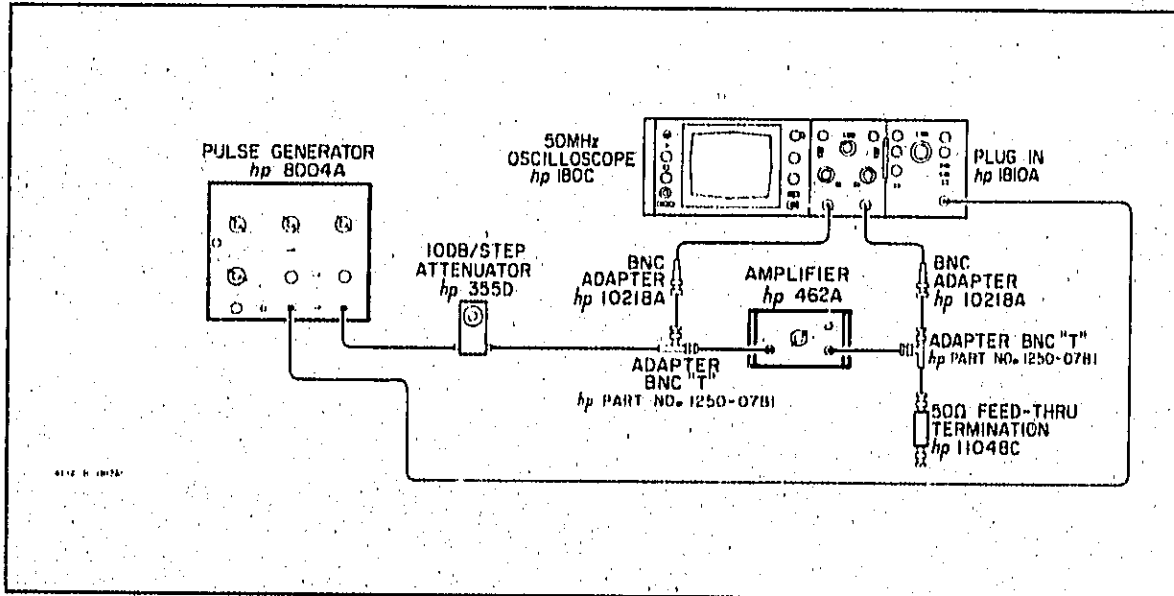

Figure 5-5. Pulse Delay Check Setup
a. Connect the 462A as shown in Figure 5-5.
- a. With the 462A connected as in Figure 5-5, channel "B", increase the amplitude of the pulse generator until a 1 volt peak-to-peak pulse is observed on the oscilloscope. This verifies the maximum output of the 462A Pulse Amplifier.